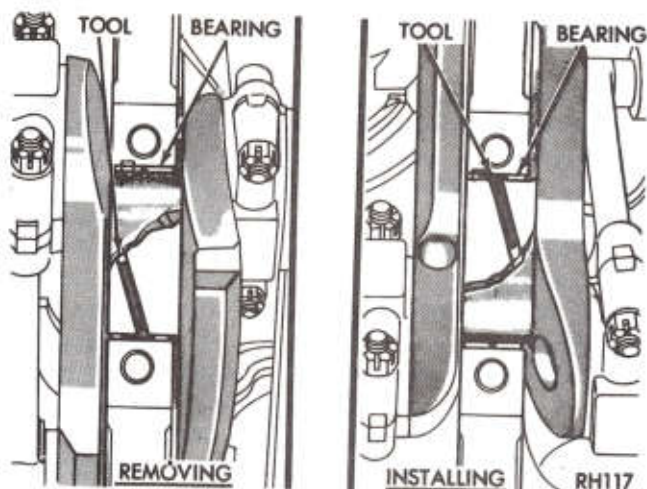

Fig. 47—Removing and Installing Upper Main Bearing with Tool C-3059
(2) Remove bearing caps one at a time. Remove upper half of bearing by inserting Tool C-3059 (Fig. 47) into the oil hole of crankshaft.
(3) Slowly rotate crankshaft clockwise, forcing out upper half of bearing shell.
(1) Start bearing in place, and insert Tool C-3059 into oil hole of crankshaft (Fig. 47).
(2) Slowly rotate crankshaft counter-clockwise sliding the bearing into position. Remove Tool C-3059.